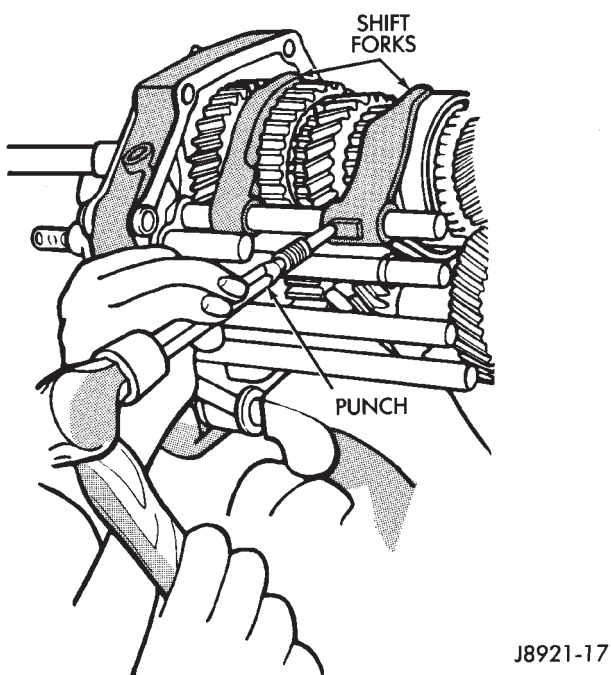

Fig. 17 Removing Shift Fork Pin
(3) Remove shift fork pins with punch and hammer (Fig. 17).